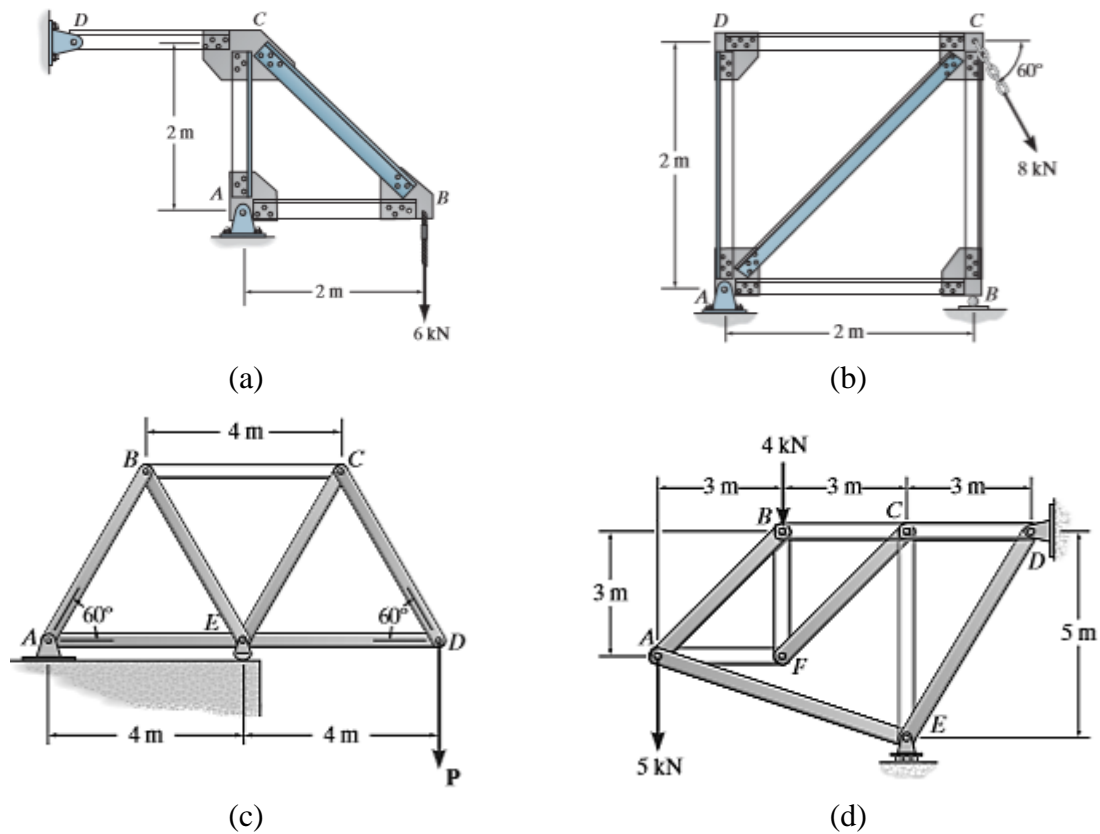

Fig. 3
3. Determine the force in each member of the truss using *Method of Joints* and state whether it is in tension or compression. (Fig. 3)